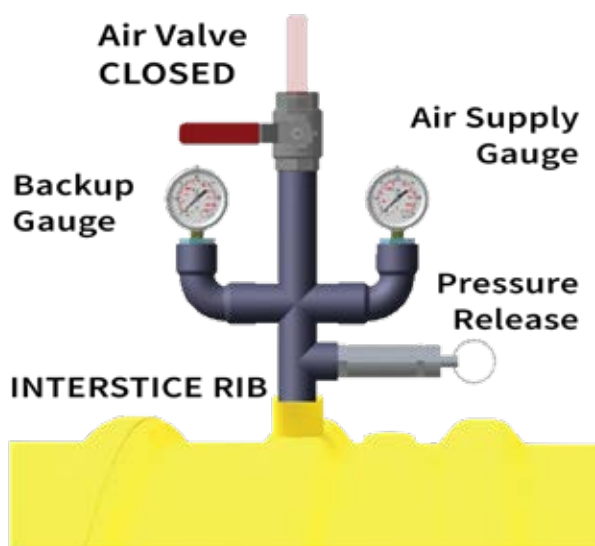

Figure 5: Contractor Fabricated Interstice Test Manifold
- ✓ Assemble the required number of "Tank Test Manifolds" Reference Figure 5, one per compartment
- ▼ Close the air supply valve (see Figure 5)
4.5 TESTING DOUBLE WALL TANK(S) SHIPPED UNDER VACUUM